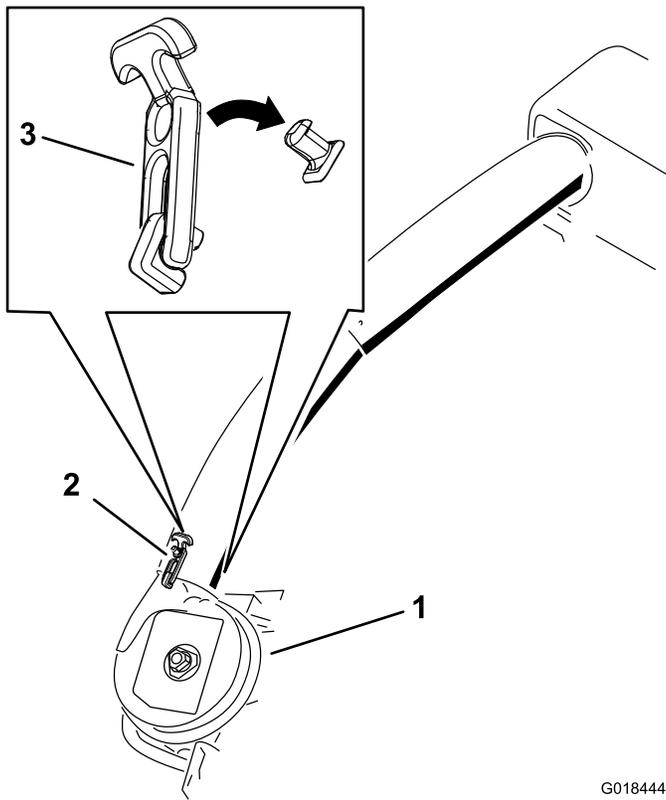

Figure 29
6. Use both latches to attach the lower tube to the blower assembly (Figure 29).
21. Use both latches to attach the lower tube to the blower assembly (Figure 29).